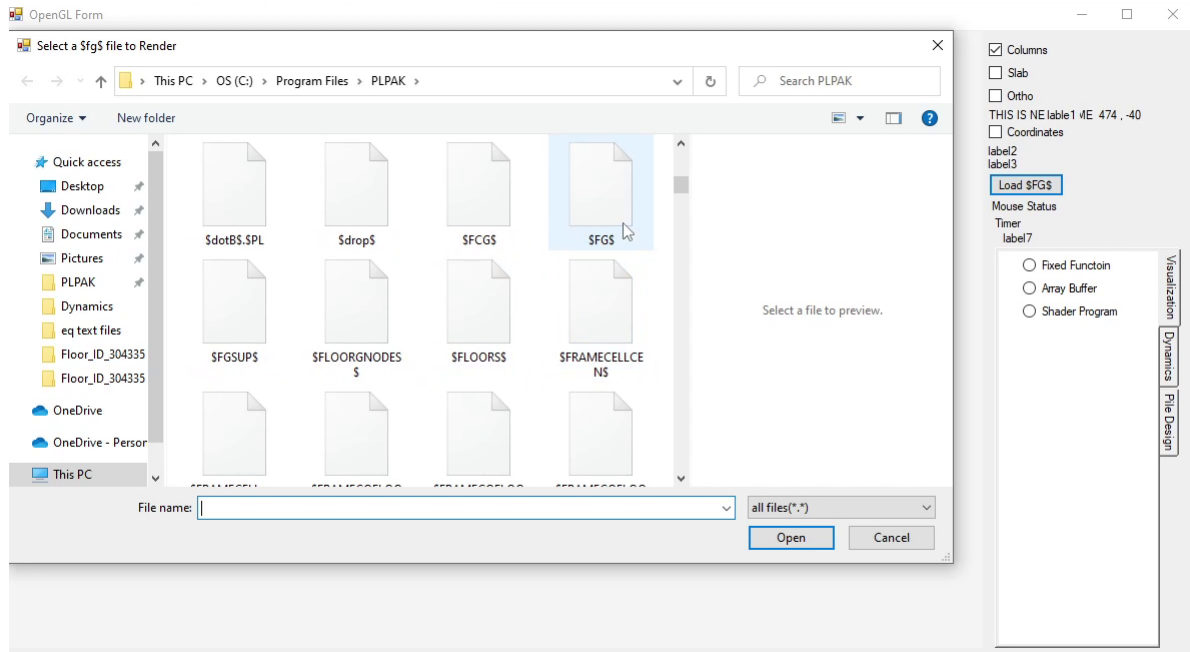

Figure 12 Selection of \$FGS text file from PLPAK installation folder
- The user should load \$FG\$ from PLPAK installation folder as shown in Figure 12